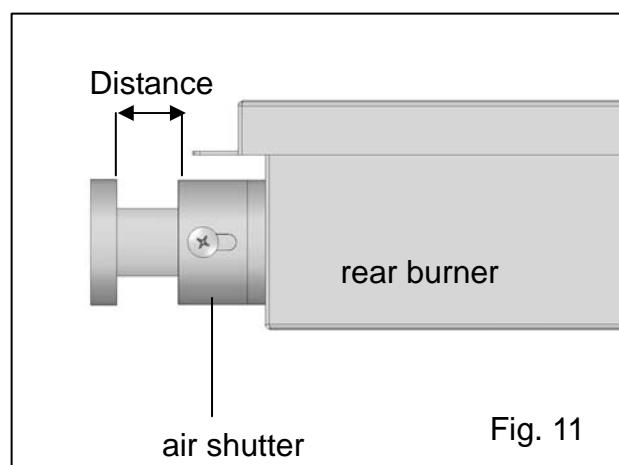

Fig. 11
- Loosen the air shutter of the rear burner and adjust the distance between air shutter and rear burner. In LPG model, the air shutter is at its rightmost position, and the distance is about 0.67 inch; and in NG model, the air shutter should be at its leftmost position, and the distance is about 0.4 inch. Please use a screwdriver to adjust the distance. After adjustment, tighten the screw. (Fig. 11)